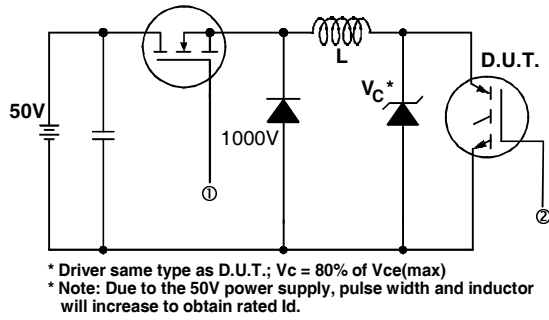

Fig. 13a - Clamped Inductive Load Test Circuit
- ② V_{CC} = 80%(V_{CES}), V_{GE} = 20V, L = 10μH, R_G = 5.0Ω, (See fig. 13a)
- ③ Repetitive rating; pulse width limited by maximum junction temperature.
- ④ Pulse width ≤ 80μs; duty factor ≤ 0.1%.
- ⑤ Pulse width 5.0μs, single shot.
- ⑥ Current limited by the package, (Die current = 100A)